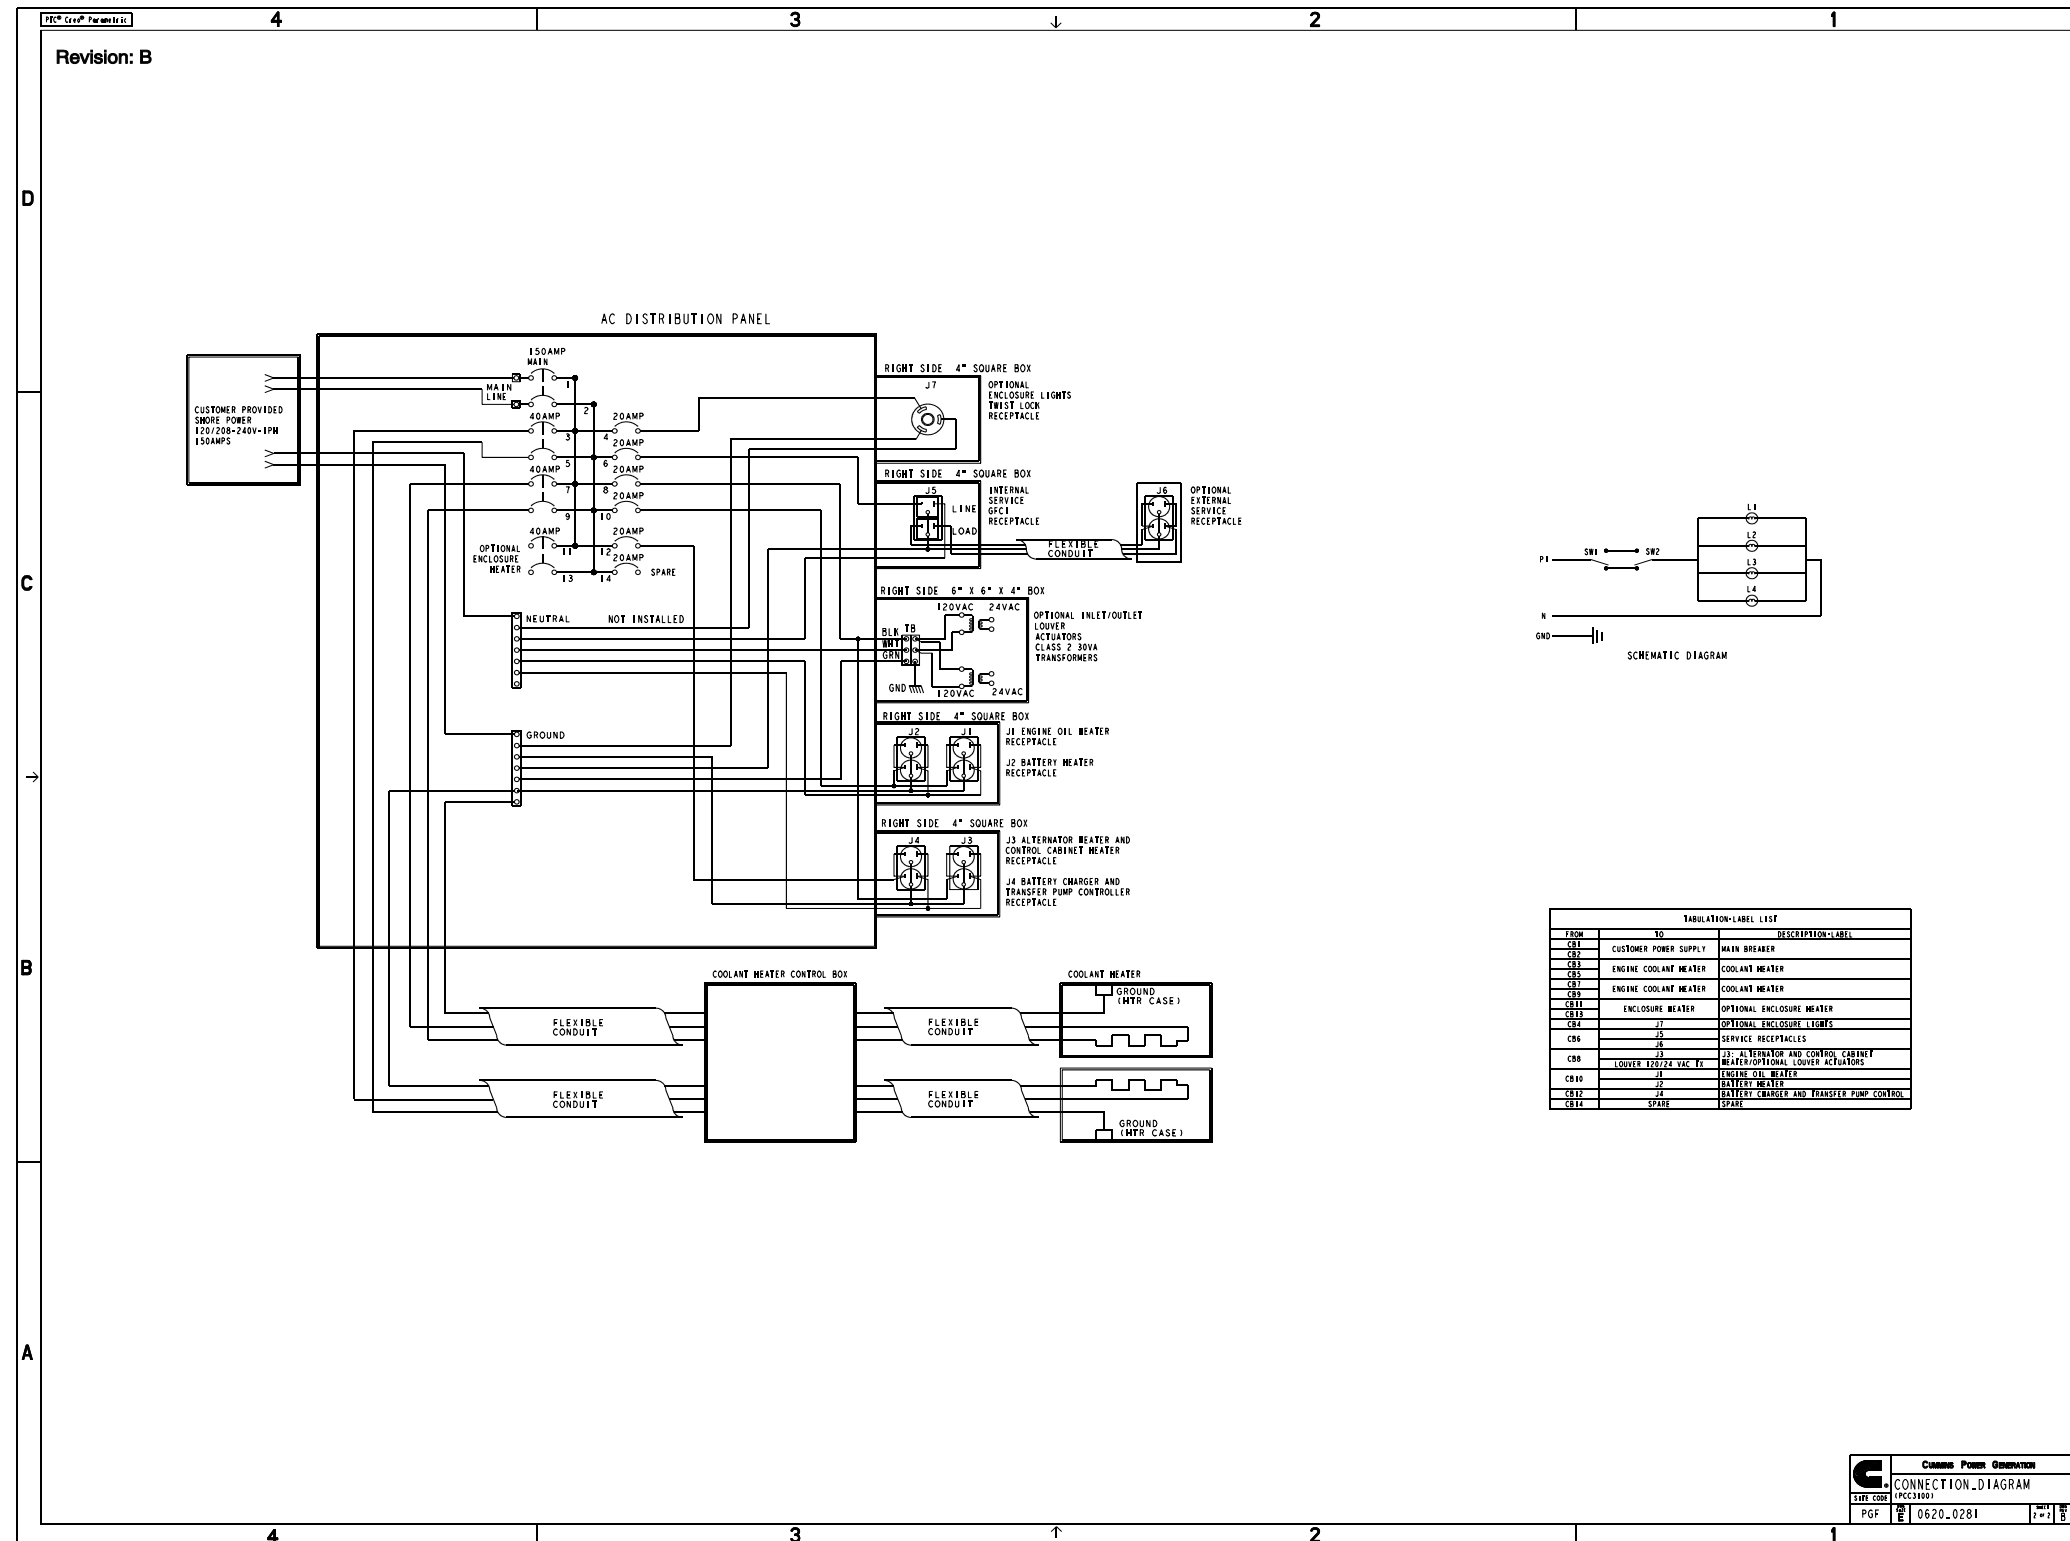

FIGURE 95. WIRING FOR OPTIONS (SHEET 2 OF 2)
- Figure 95. Wiring for Options (Sheet 2 of 2) 167